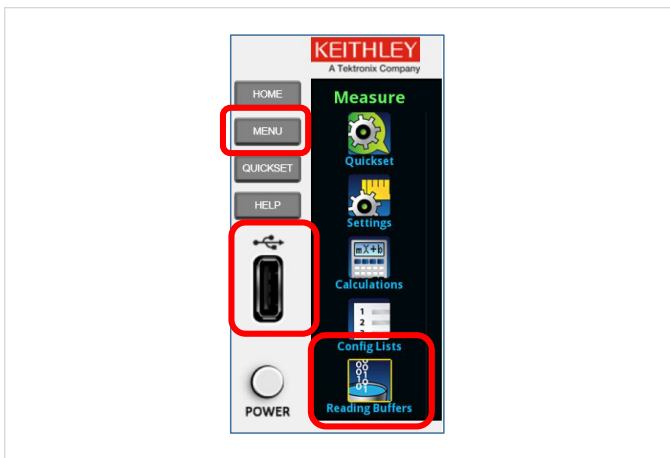

Figure 5: The MENU key; Reading Buffers icon; and USB drive insert.
- a. Press the **MENU** key (**Figure 5**).
- b. Touch the **Reading Buffers** icon found at the bottom of the Measure column (**Figure 5**).
- c. Insert a USB thumb drive into the port provided on the front of the DMM7510 (**Figure 5**).